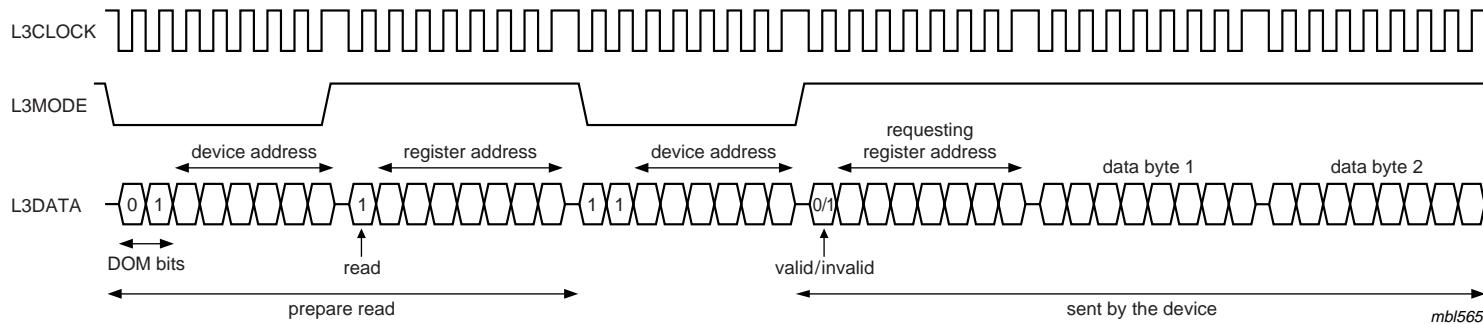

Fig 12. Data read mode
2. Addressing for prepare read: bit 0 is logic 1, indicating that data will be read from the register (see Figure 12).
3. Addressing for data read action. Here, the device returns a register address prior to sending data from that register. When bit 0 is logic 0, the register address is valid; when bit 0 is logic 1, the register address is invalid (see Figure 12).
To read data from the device, a prepare read must first be done and then data read. The data read mode is explained in the signal diagram of Figure 12.